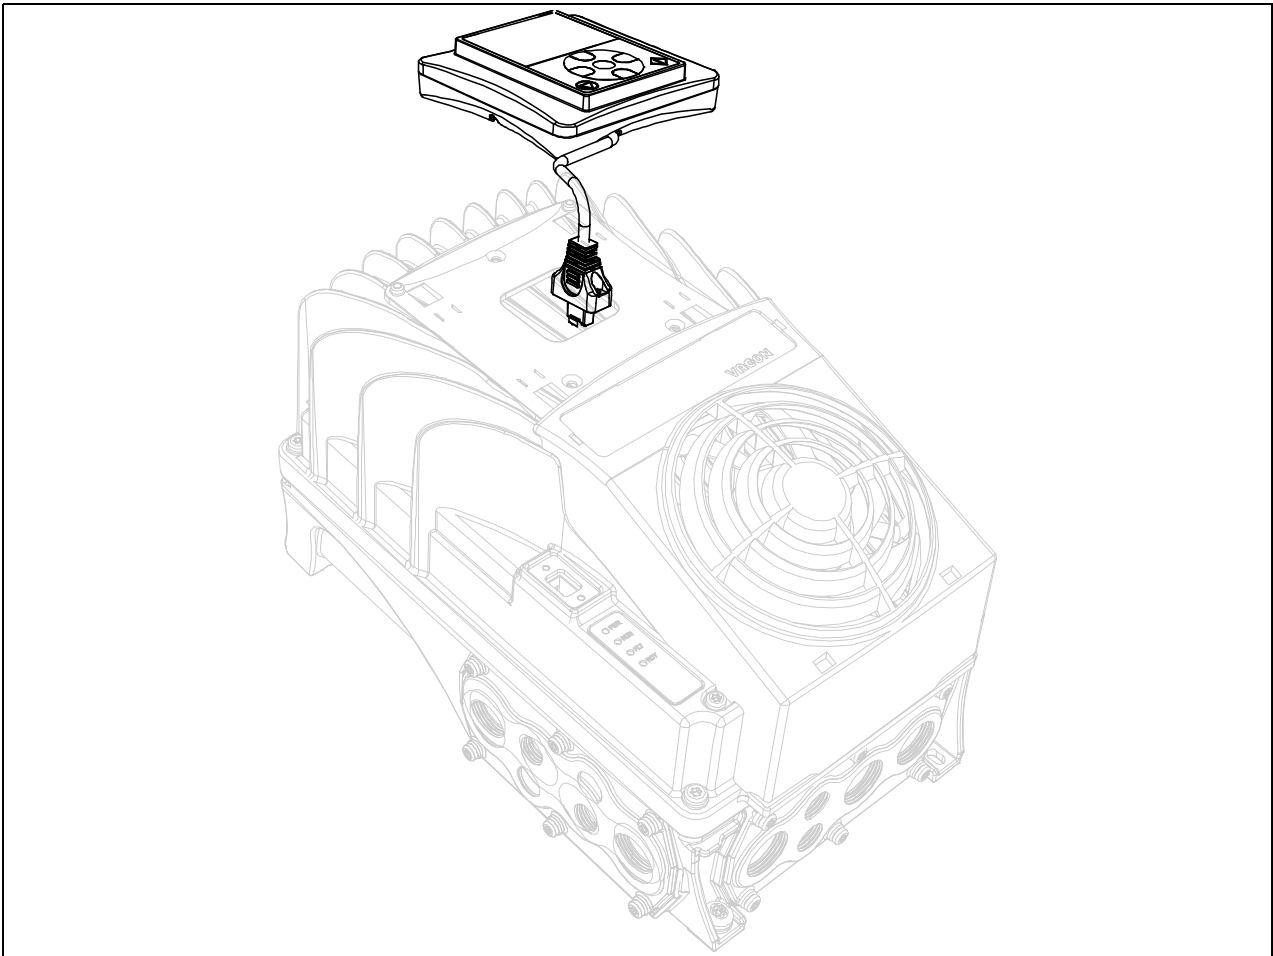
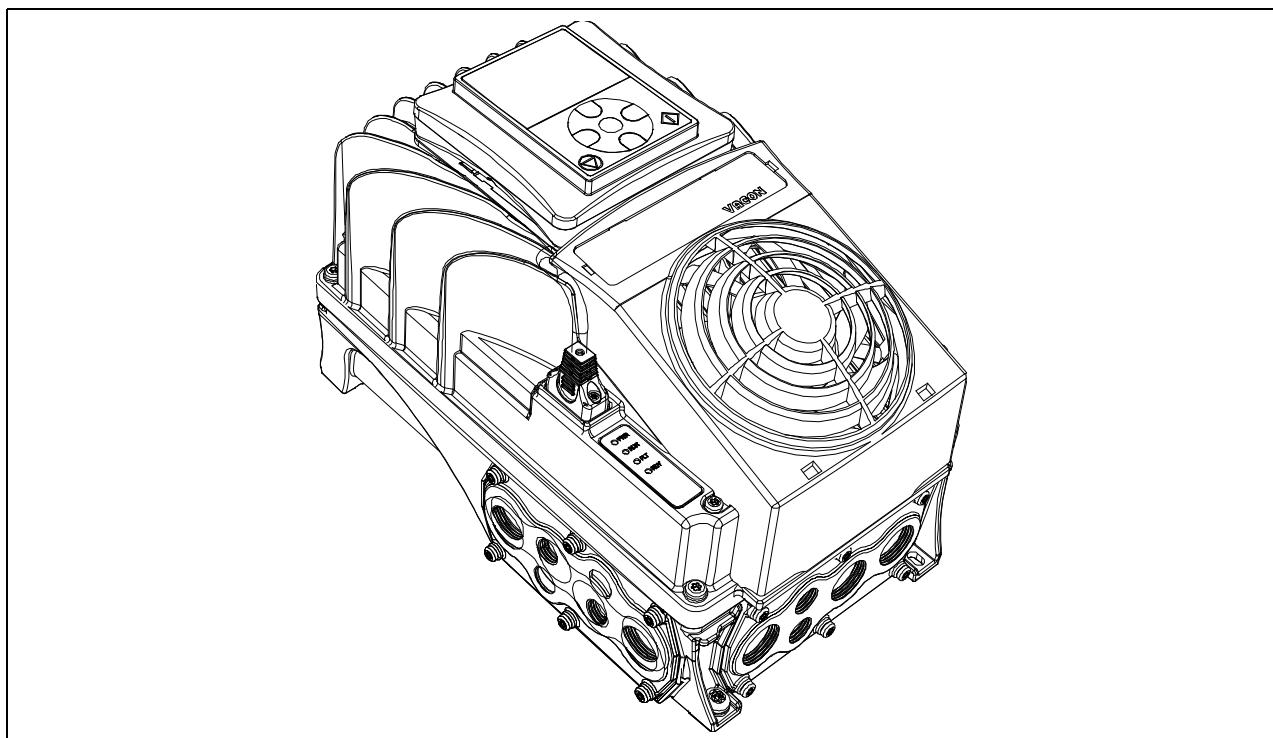

Figure 40. Mounting of the keypad.
Figure 41. Keypad mounted onto the drive.
- Connect the keypad to the drive and plug the cable on the HMI connector as shown in the Figure 40 and in the Figure 41.